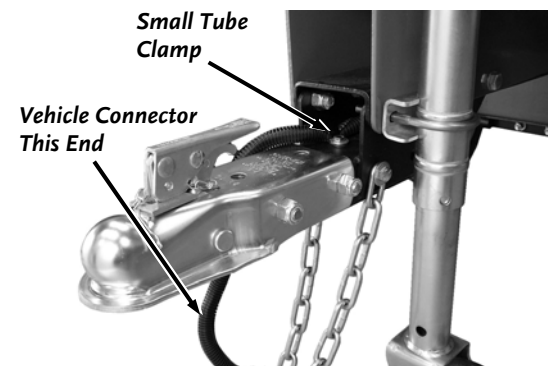

Figure 38
15. Place the Vehicle Connector end of the Wire Harness near the Tow Hitch and let it extend about two feet past the Hitch. Place the 7/16" Tube Clamp around the Harness and secure the Clamp to the Frame using two 7/16" Wrenches (**Figure 38**).